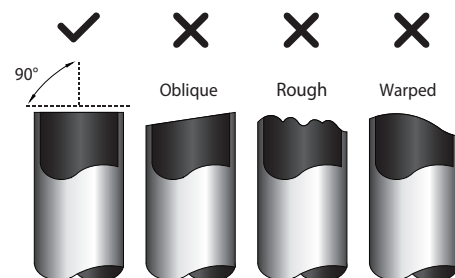

Fig. 7.3
1. Make sure that the pipe is cut at a perfect 90° angle. Refer to Fig. 7.3 for examples of bad cuts.